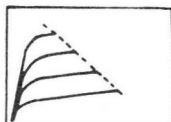

Fig. 12. Curve display with current limiting
- Adjust step switch "LOAD Ω " so that the curve display is limited (e.g., according to the dotted line in Fig. 12).
When a curve trace of a transistor is displayed the highest power dissipation occurs during the transition from the conductive to the non-conductive state. Fig. 12 shows a curve trace whereby the power dissipation limit $P_C \text{ max.}$ of ... mW is represented by the dotted line. This display method with limiting at $P_C \text{ max.}$ can be approximated with the curve tracer.
Dependent on the base drive of a transistor currents will flow through the collector circuit which are a factor h_{fe} higher. When series resistors are included in the collector circuit a voltage drop will arise across this resistance which causes a decrease of the collector-emitter voltage of the semi-conductor under test which depends on the transistor drive. In this way a power limitation is obtained which can be adapted to the maximum permissible value of the transistor and which can be adjusted to any value within the resistance and voltage ranges (Fig. 12).